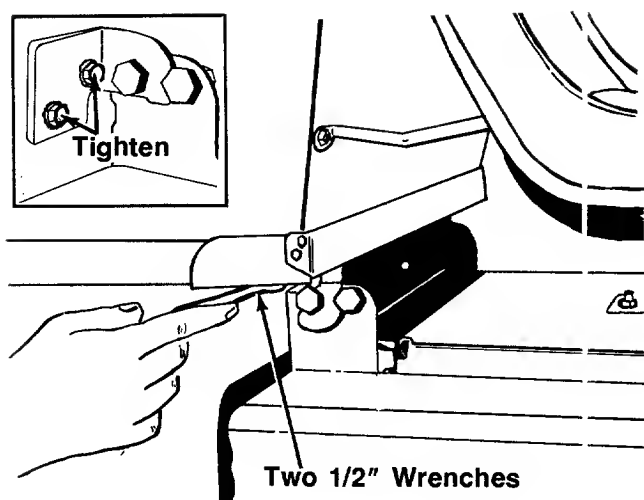

FIGURE 8.
8. Assemble the grass catcher to lawn tractor as follows. See figure 8. Lift the grass catcher all the way up. Have someone hold grass catcher up or block up. Then with two 1/2" wrenches, tighten hinge bracket bolts securely.